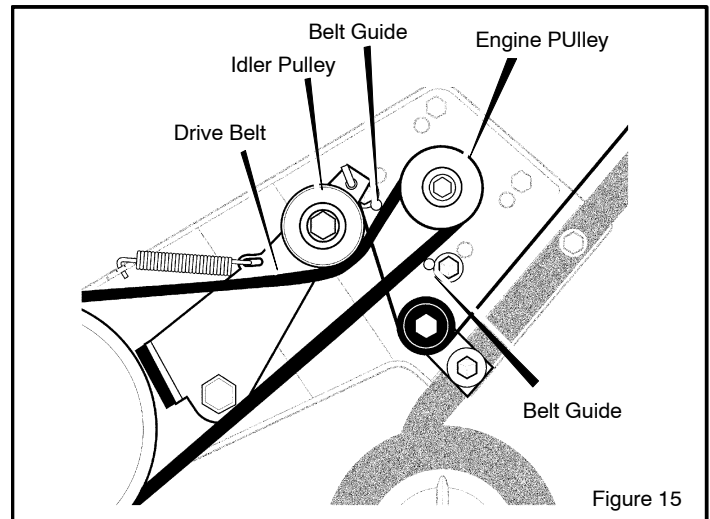
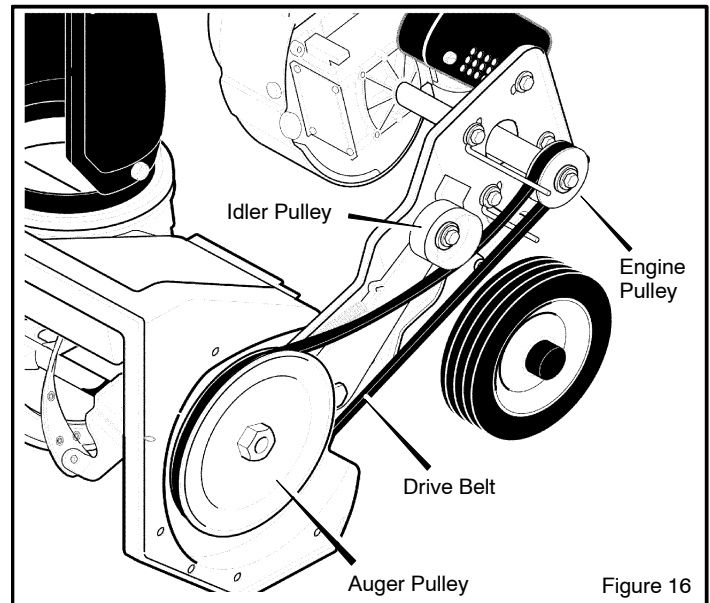

Figure 15
Figure 16
2. Remove the **drive belt** from the **idler pulley**. (See Figure 15 and Figure 16)
4. Remove the **drive belt** from the **auger pulley**. (See Figure 16)